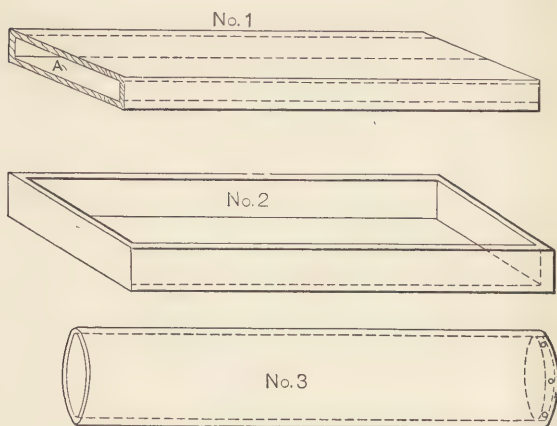

Fig. 4. Boxes for Pack Hardening.
**Pack Hardening Long Pieces.**—Pieces that are too long to heat in a charcoal forge, shown elsewhere in the book, should be packed in fine charcoal, using a box similar to that shown in No. 2, Fig. 4. It should have a cover, and after the work to be hardened is packed in the box, the cover should be sealed. The box should be long enough to let the pieces clear about  $1\frac{1}{2}$  inches at each end. If using a furnace and firing with hard coal, and if the furnace is at normal heat inside, place the box in the furnace and leave for about one hour, or a little more; perhaps  $1\frac{1}{2}$  hours.
Box No. 1 in Fig. 4 is another type suitable for pack hardening. With this, however, it is necessary to shove the work to be hardened in at end *A*. When the pieces are ready to take out, you have to take hold of the end and draw the entire piece out of the box. Before getting hold with another pair of tongs, this operation is almost certain to bend the piece, causing it
to warp when put in the water. If you have no box like No. 2, use a piece of pipe as shown in No. 3, Fig. 4. Rivet a plug in one end, and after the parts to be hardened are packed in, plug the other end with asbestos cement.